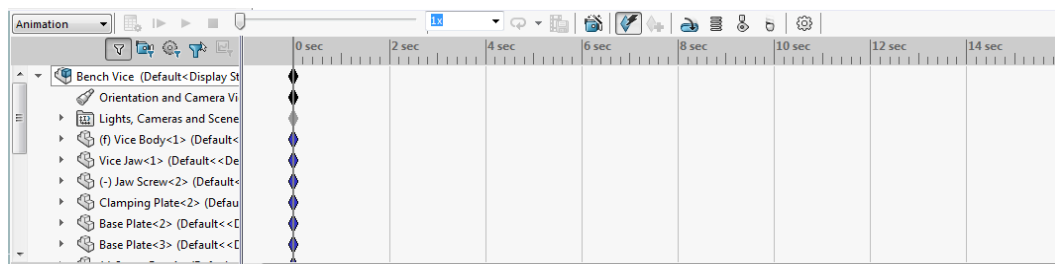

Figure 20-20 The MotionManager Interface
2. Click on the **Motion Study 1** tab displayed at the bottom; the **MotionManager** Interface is displayed, as shown in Figure 20-20.